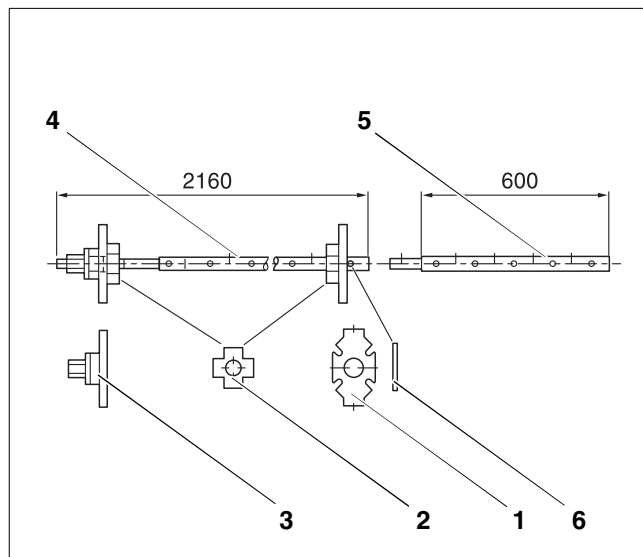
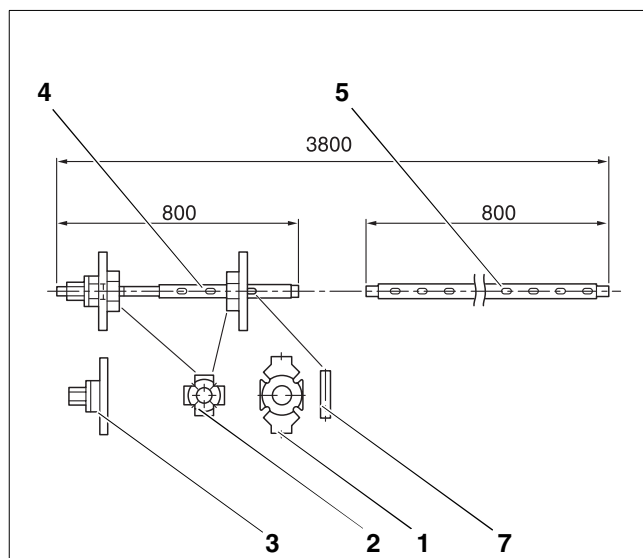

Fig. 1 Size 2.2 boiler compression tool
Fig. 2 Size 2.3 boiler compression tool
- Boiler compression tool 2.2 (Fig. 1) or 2.3 (Fig. 2)
Legend (Fig. 1 and Fig. 2):